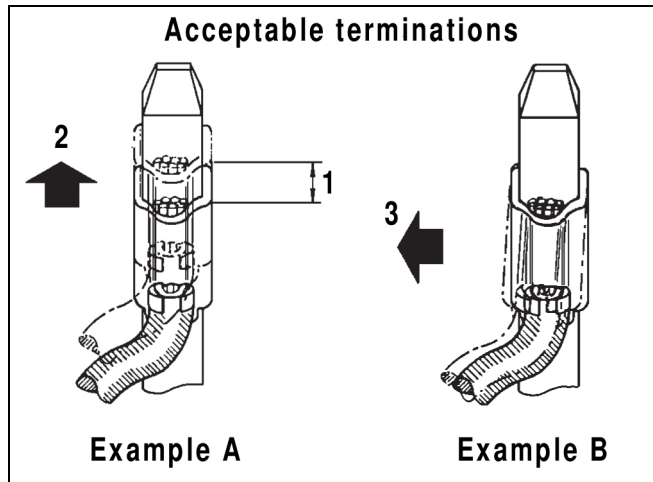

Fig. 30: Acceptable terminations
- c. Clip may slide before indicator ring is visible but at least a half of the clip length (Fig. 30 / Example A).
- d. Lateral clip movement during test (Fig. 30/ Example B) does not affect the quality of termination.
- d. Clip may slide no more than a half of clip length before reading is obtained (Fig. 30 / Example A).
- e. Lateral clip movement during test (Fig. 30 / Example B) does not affect the quality of termination.